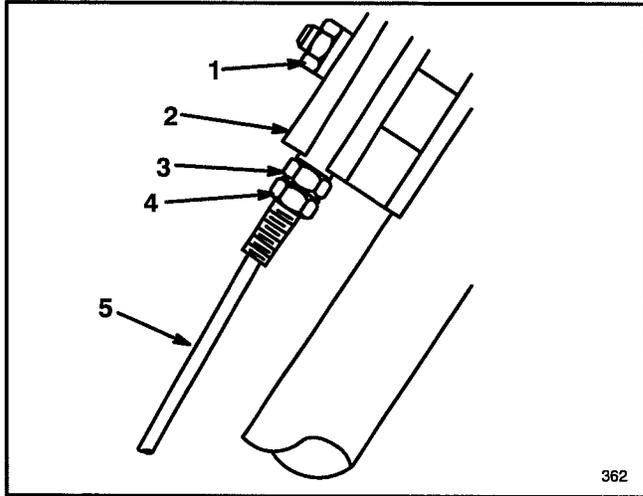

Figure 22
2. Loosen nut on support block (Fig. 22).
3. Loosen bottom jam nut on wheel traction cable (Fig. 22).
8. Top jam nut should be against support block when adjustment is complete (Fig. 22).